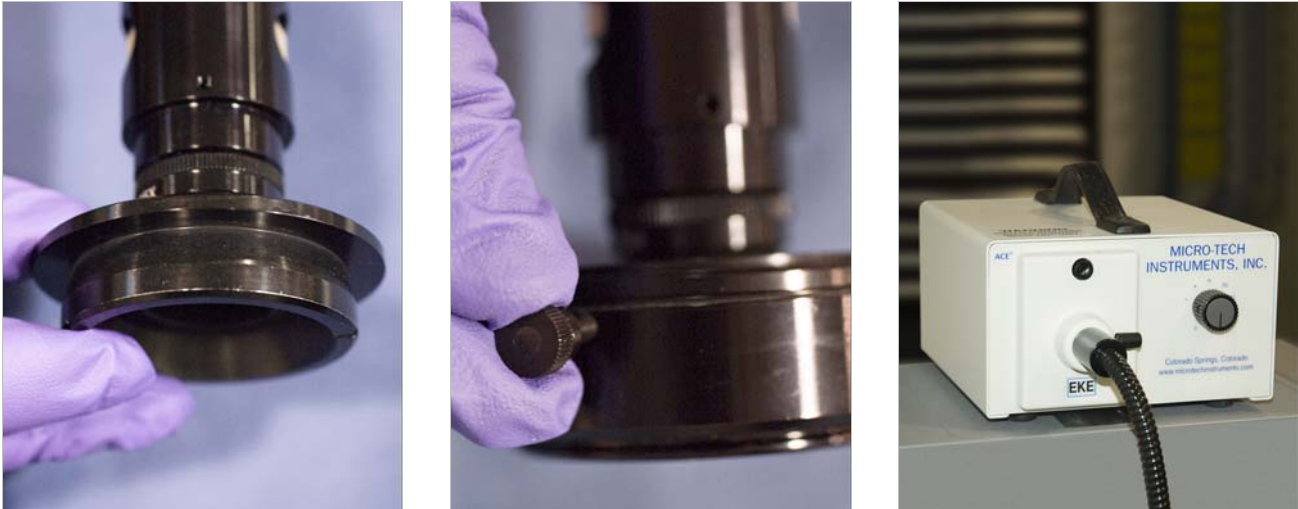

FIGURE 3-21 *Left: Installing the ring light onto the adapter; Middle: Tighten the ring light thumbscrews; Right: Fiber optic cable attached to the light source*
- a. Screw the light source adapter onto the bottom of the microscope, using the three screws supplied (FIGURE 3-21). Finger tighten only.
- b. Insert the fiber optic cable into the light source. Finger tighten only (FIGURE 3-21).